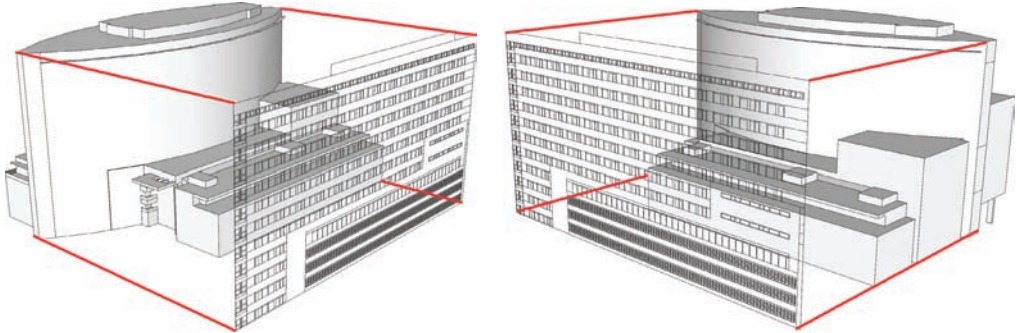

Fig. 15-3: The facade is aligned with the building mass.
3. The edges need to be lined up with the massing; you can see how to do this in Figure 15-3. The four edges that connect the massing to the edges delineate the outer boundaries of the massing and the edges. Furthermore, the detail in the edges corresponds to a specific part of the massing.